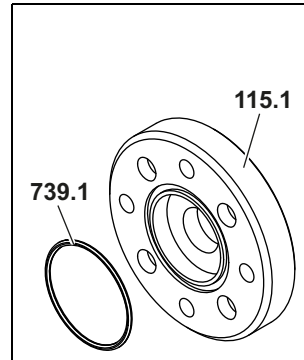

Fig. 7
2. Remove the O-rings **739.1** and **739.2**, see Fig. 7, page 32.